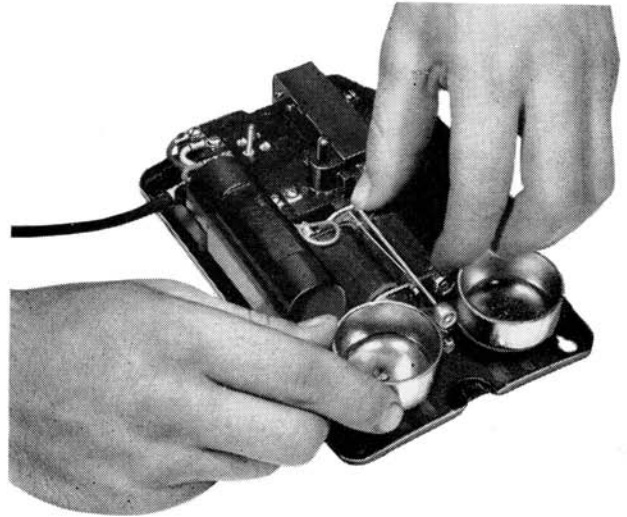

Figure 22 — Adjusting Gong Spacing
Step 1—Check the gong adjustment by holding first one and then the other side of the armature against its respective pole piece (*see figure 22*).
Harmonic Ringers—Merely adjust the gong spacing for the desired tone quality (see figure 22).